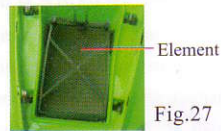

Fig.27
Cleaning and fitting of air filter (EP) (Fig.27)